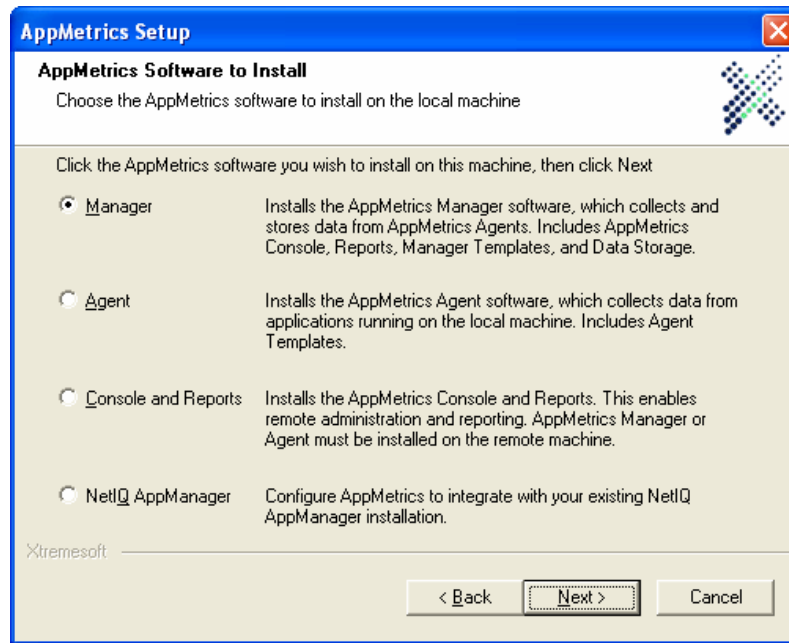

Figure 13
7. Choose the setup type. In this case click on the **Manager** radio button (see Figure 13). Click **Next**.